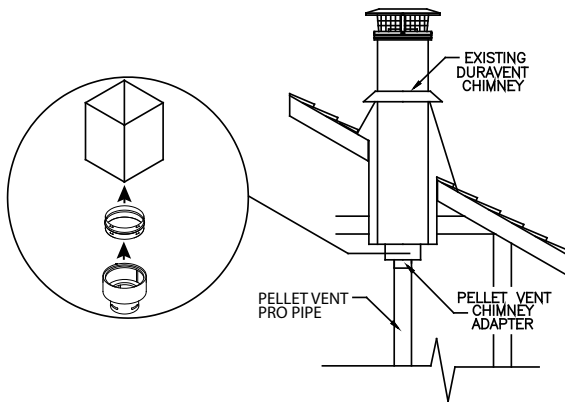

Figure 17
(1) The exit terminal of a mechanical draft system other than a direct vent appliance (sealed combustion system appliance) shall be located in accordance with the following:
6. If it is desired to attach to an existing 6"-8" DuraTech, DuraPlus or DuraPlus HTC chimney, either roof supported or ceiling supported (*Figure 17*):